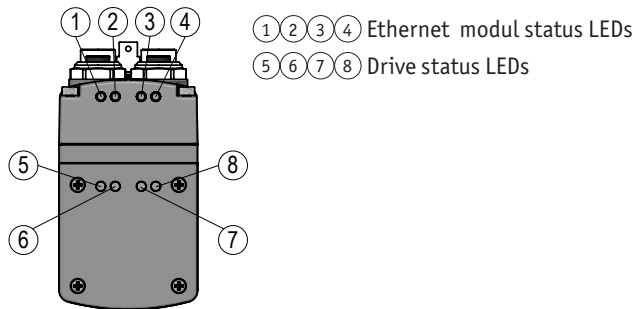

Fig. 9: Status Display
With factory settings, the LEDs ⑤⑥⑦⑧ (**Fig. 9**) inform about the drive's status. You can configure the functions of the drive status LEDs. For a description of the functions of the drive status LEDs refer to the relevant user manual.